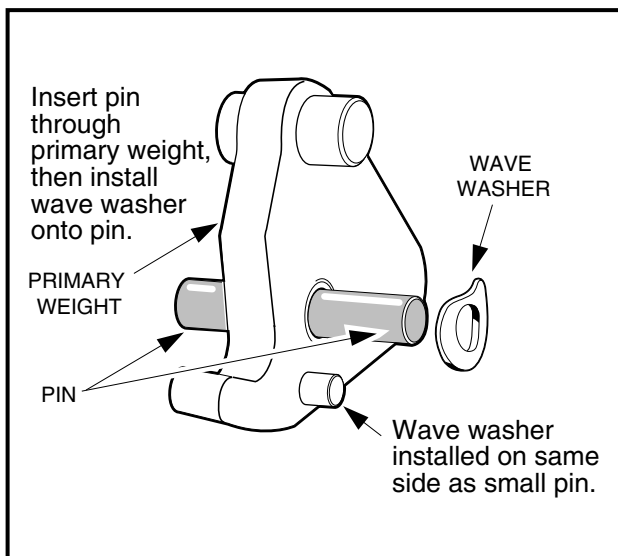

Figure 17-12 Install Pin and Washer
- 5.3. Remove the plastic washers, weights and wave washer from the pins. Before removing, note the orientations of the wave washer and of the primary and secondary weights to one another (**Figure 17-12, Page 17-10 and Figure 17-13, Page 17-10**). Retain all parts.
4. Inspect the thrust washer (11) for wear. If it is worn more than 0.030-inch (0.76-mm), turn it over or replace it with a new one.
5. Inspect the primary weights and the hub casting for wear. If the primary weights show signs they are touching the casting, the tips of the weights have worn beyond specification and they must be replaced (**Figure 17-12, Page 17-10**).
7. Install the primary weights on the mounting pins (Figure 17-12, Page 17-10).
8. Install a wave washer on each mounting pin. Make sure that the concave side of the washer faces the side of the primary weight with the small guide pin protruding from it (**Figure 17-12, Page 17-10**).